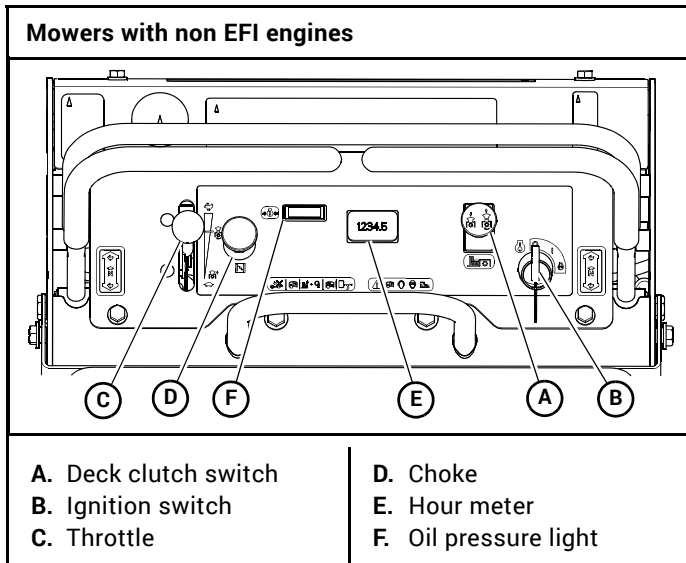
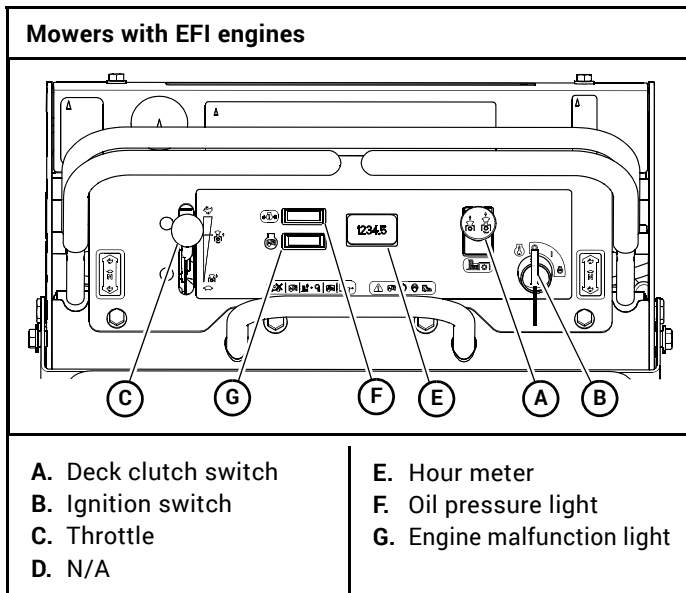
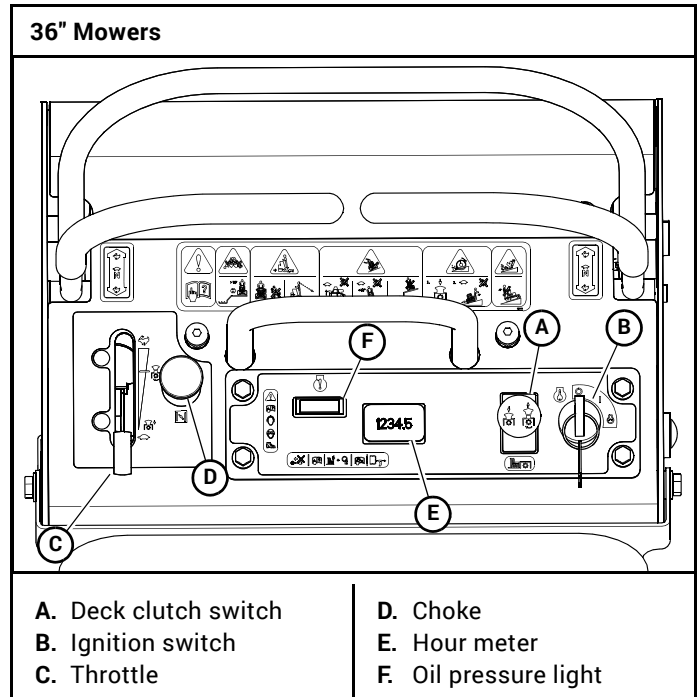

Figure 3-1
Figure 3-2
Figure 3-3
**A. Deck clutch switch (Figure 3-1, Figure 3-2, & Figure 3-3)** – this switch engages the deck. Pull the switch up to engage and push the switch down to disengage the clutch.
**B. Ignition switch (Figure 3-1, Figure 3-2, & Figure 3-3)** – a three position switch: “OFF”, “RUN”, and “START”. With key inserted, rotate it clockwise to the “START” position; release the key when the engine starts, and the switch will automatically return to the “RUN” position.
**C. Throttle control (Figure 3-1, Figure 3-2, & Figure 3-3)** – a cable is linked to the engine throttle for controlling engine speed. Move the lever forward to increase engine rpm, move the lever rearward to decrease engine rpm.
**D. Choke control (if equipped) (Figure 3-1 & Figure 3-3)** – a cable is linked to manually operate the engine choke. When the knob is in the down position, the choke is in the “OFF” (run) position. When the knob is pulled up, the choke is in the “ON” (start) position. **Do not** operate the machine in the “ON” (start) position.
**E. Electronic hour meter (Figure 3-1, Figure 3-2, & Figure 3-3)** – registers 1/10 hour increments up to 9,999.9 total hours. It is connected to the ignition switch. It records the accumulative time while the ignition key is switched to the “RUN” position.
**F. Oil pressure light (Figure 3-1, Figure 3-2, & Figure 3-3)** – this light comes on when the ignition switch is placed in the “RUN” position and stays lit until the engine is running and a safe oil pressure is developed. If the light comes on during operation, shut the engine off immediately and locate and correct the problem.
**G. Engine malfunction light (Figure 3-2)** – this light comes on when there has been an engine malfunction on mowers with electronic fuel injected engines. Refer to the engine owner’s manual for more details.